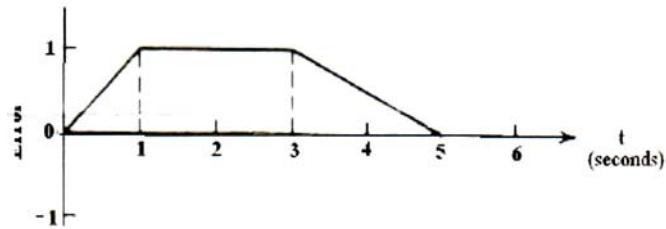

Figure 3
- Q9) a)** Figure 3 shows an error time graph. Sketch the PID controller (series form) output w.r.t. time. Assume $K_p=10$, $K_I = 2$, $K_D = 0.5$ and $P_o=0$ i.e the controller output is zero when the error is zero. [10]